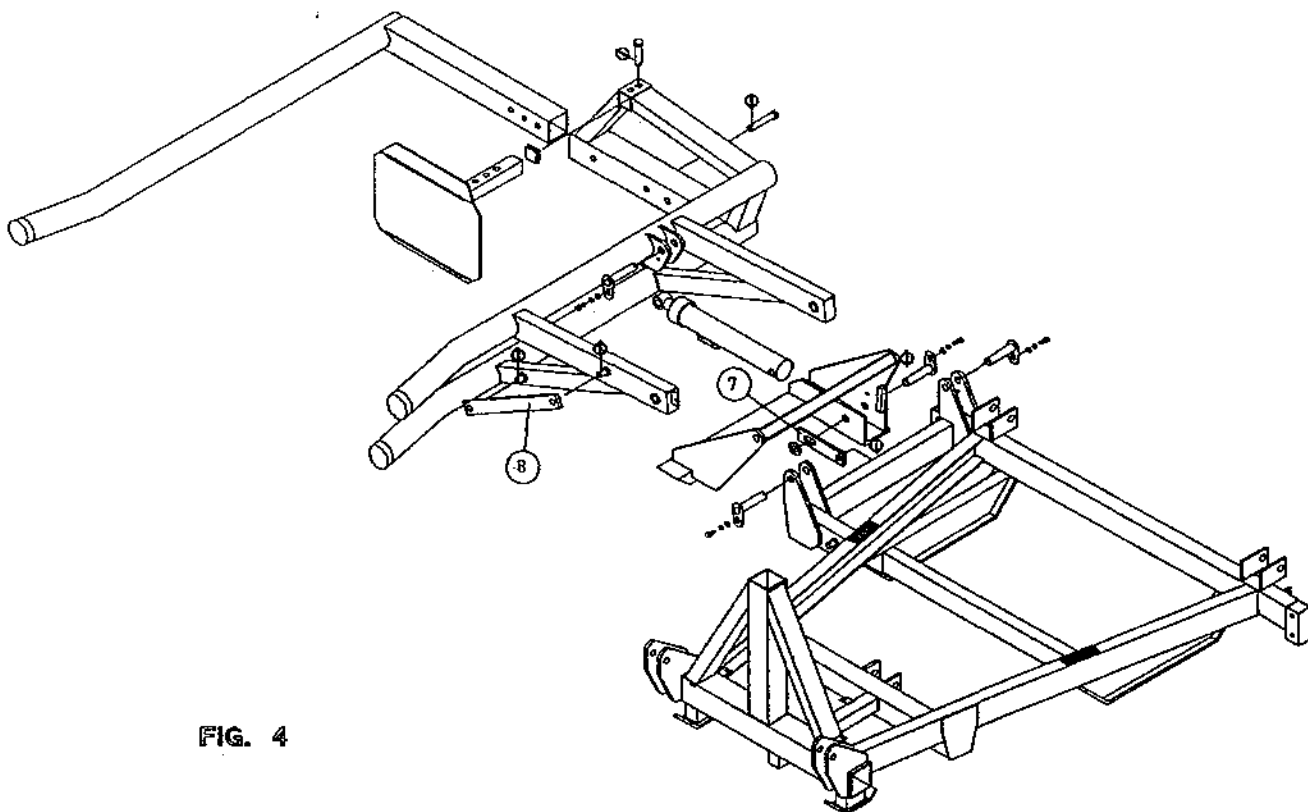

FIG. 4
6. Lower the loading arm stabiliser skid until it touches the ground and pressure is off safety prop (8) Fig. 4 which should then be removed and stored on spigots on loading arm.
7. Lower loading arm until it just touches ground. Remove safety stay (7) Fig. 4 from storage spigots and refit it to spigot on chassis, ensuring slotted hole is fitted to end of lift ram pivot pin and secure with lynch pins.
- A. Remove safety stay (7) Fig. 4 and relocate on the stabiliser skid.
- B. Raise loading arm fully and relocate safety prop (8) Fig. 4 between loading arm and chassis.